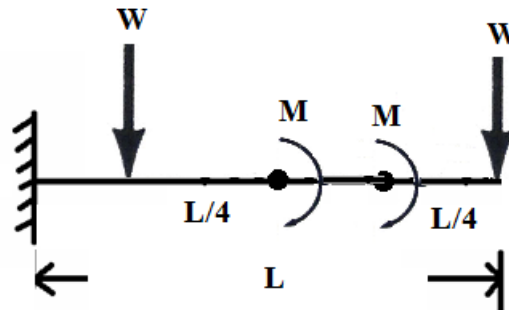

Figure: 2
5. Draw the shear force and bending moment diagrams for the beam shown in figure 2. [10]